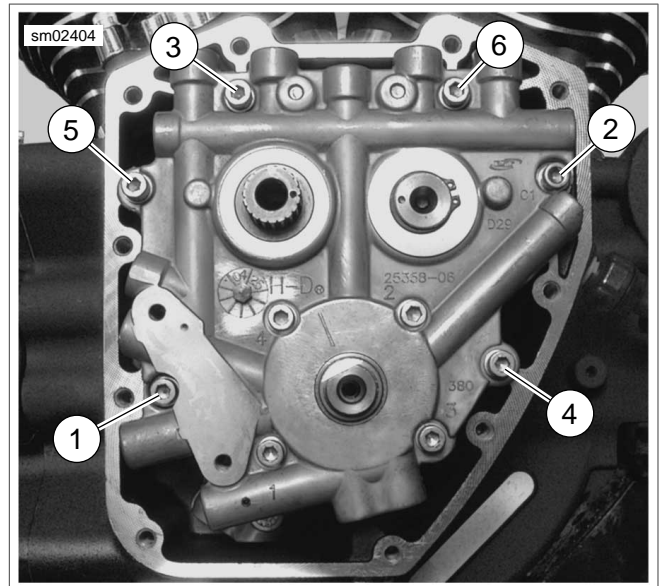

Figure 3-61. Cam Support Plate Torque Sequence
5. See Figure 3-61. Install cam support plate screws.